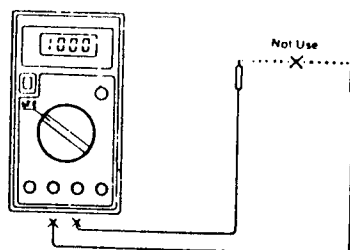

Fig. 5-8 Transistor hFE Test.
2. Determine whether the transistor is NPN or PNP and locate the Emitter, Base and collector leads. Insert the leads into the proper holes in the socket on the front panel See Fig. 5-8.